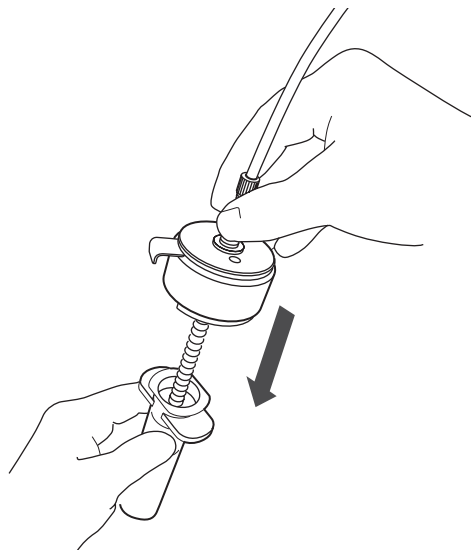

Figure 5-2 Insert the plunger to the bed
3. Slide the plunger into the cartridge until it reaches the top frit (Figure 5-2).